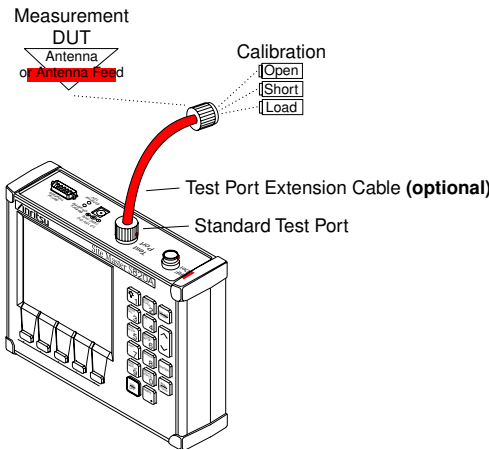
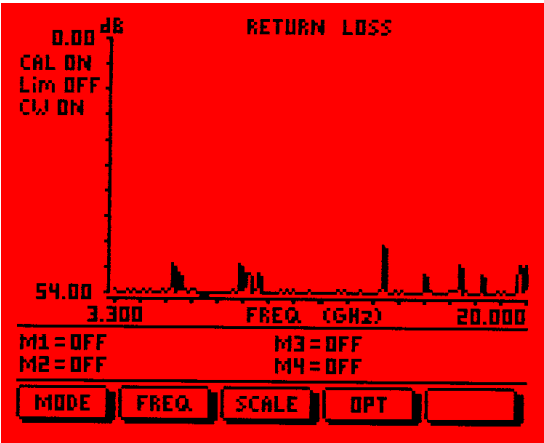

Figure 3-3. Coax Measurement/Calibration Test Setup
Figure 3-4. Return Loss Measurement Mode Calibration Results
- Step 17.** If **COAX** is selected, follow the instructions in the message area and connect the open, short, and load when prompted. Connect the k to n-type adapter as needed for your particular configuration. Refer to Figure 3-3. Figures 3-4 and 3-5 show a typical response after calibration with the load still attached to the test port.